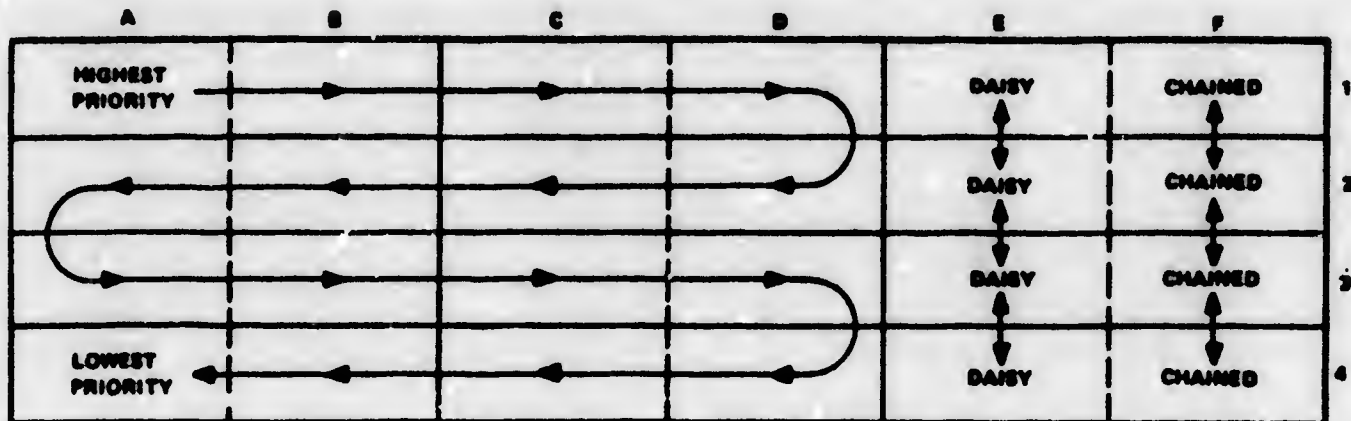

Figure 6 DDV11-C Backplane Priority Assignments
- 6.4.3 The M7954 Instrument Bus module is normally placed into slot C/D01 of the DDV11-C LSI-11 Bus backplane. If more M7954 modules are to be added, install into slots noting device priority. See Figure 6.